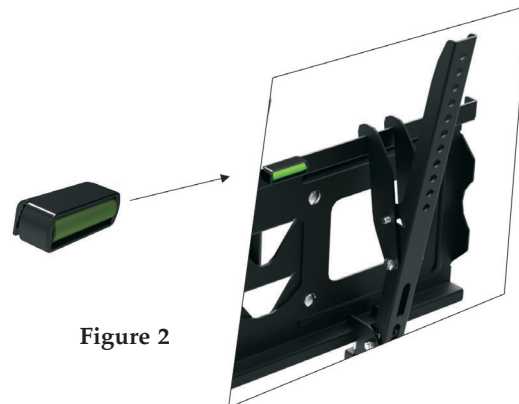
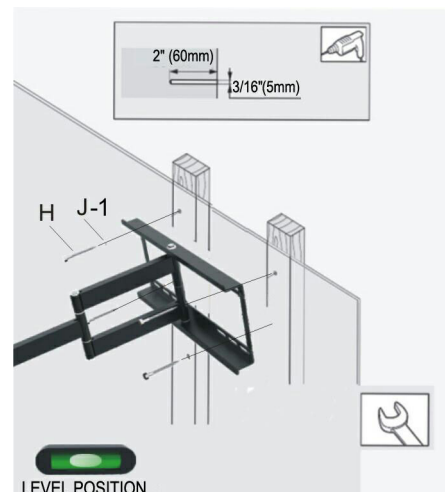

Figure 2
Figure 3
2. Attach the bubble level (J-2) to the wall plate and with the help of an assistant ensure the wall plate is level, position the wall plate against the wall in the desired mounting location (Figure 2).
7. For each location, insert a bolt (H) and washer (J) into the wall.
8. Tighten the bolt with an open ended socket wrench by turning clockwise until tight (Figure 3).